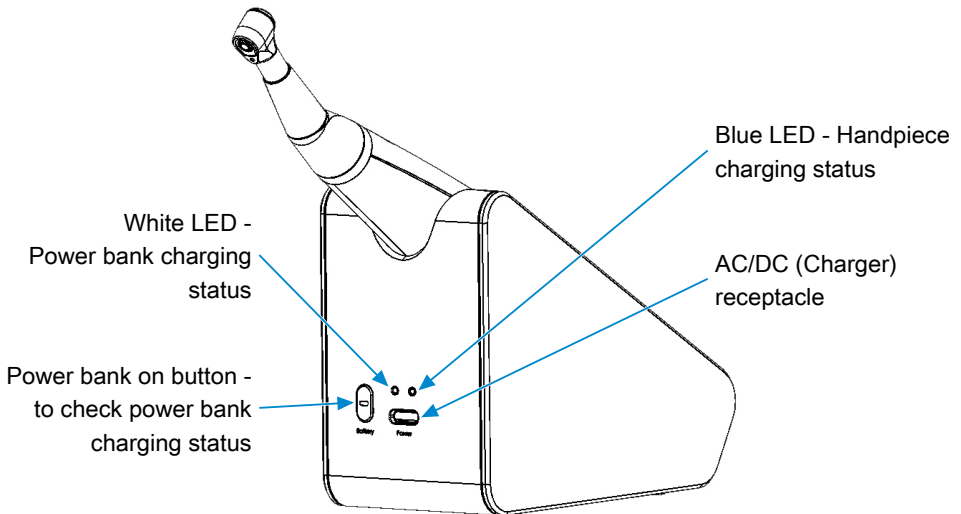

Fig. 2 : Rear view
- Connect the charger cable to the charging receptacle on the power bank (see ► Fig. 2)]. Plug the charger into the power outlet.